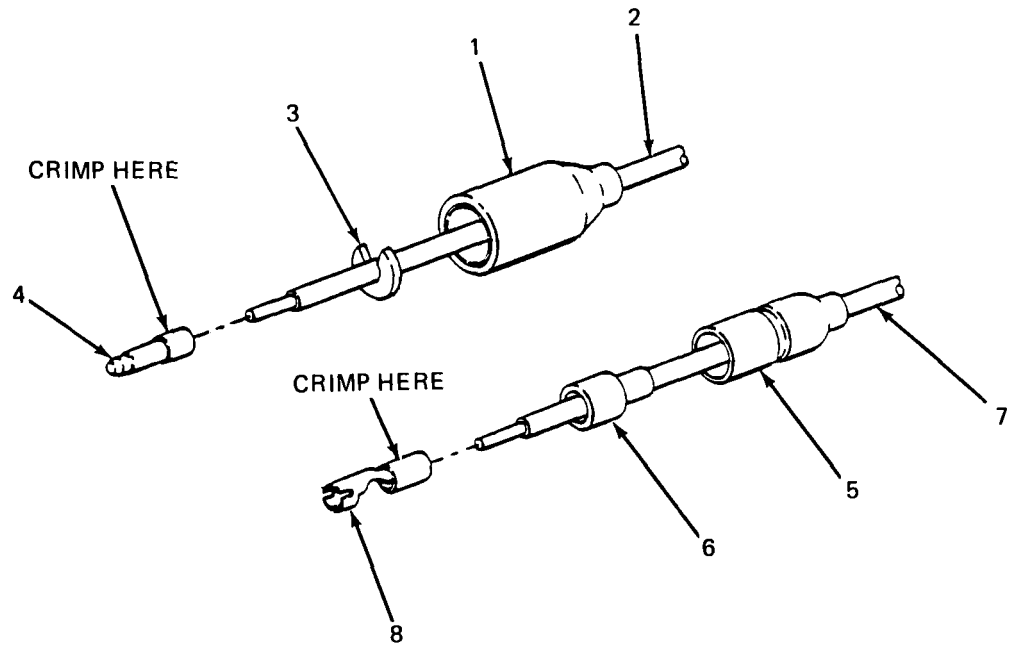

Figure 4-15. Taillight Cable Assembly and Electrical Lead Repair.
a. Male Connector Replacement. (See figure 4-15.)
- (1) Slide shell (1) back on wire lead (2).
- (2) Remove washer (3).
- (3) Slide shell (1) off over contact (4).
- (4) Cut off contact (4).
- (5) Strip insulation off wire lead (2) equal to depth of new contact (4).
- (6) Slide shell (1) and washer (3) of new connector onto wire lead (2).
- (7) Slide contact (4) onto stripped wire and solder in accordance with TB SIG 222.
- (8) Crimp contact onto wire.
- (9) Slide shell (1) forward over washer (3) and contact (4).
b. Female Connector Replacement. (See figure 4-15.)
- (1) Slide shell (5) and sleeve (6) back on wire lead (7).
- (2) Cut off contact (8).
- (3) Slide shell (5) and sleeve (6) off wire lead (7).